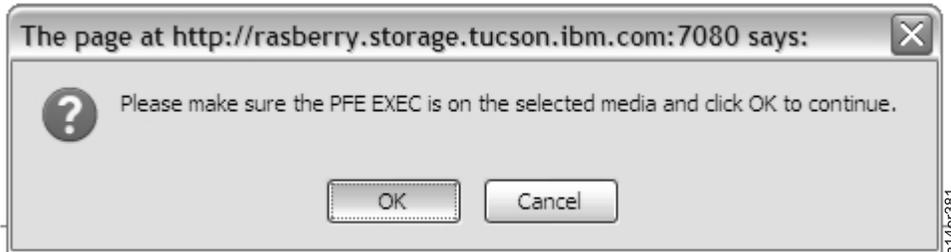

Figure 259. PFE Exec Patch
8. You see the window in Figure 259 which prompts you to verify that the PFE EXEC patch is on the selected media. Select **OK**.